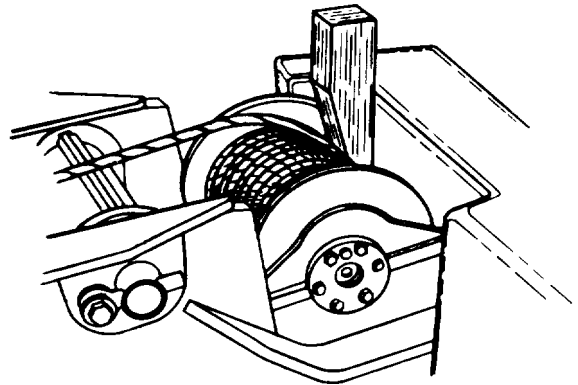

Figure 5-6 Wedge Block in Winch Drum
3. Insert wedge block between winch cable and winch brace at counterweight (Figure 5-6).